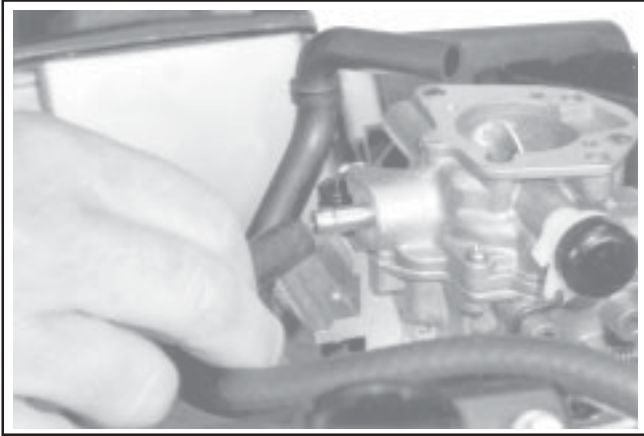

Figure 11-91. Connecting Fuel Inlet Line.
1. Attach the rubber breather hose to the breather cover. Connect the fuel inlet line to the carburetor and secure with a clamp. See Figure 11-91.